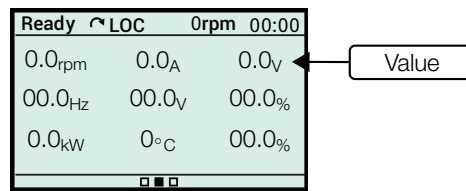

Figure 4.13: View in Slot
- **Slot:** The HMI screen is divided into nine parts called Slots and allows viewing reading variables in the format **value**. Figure 4.13 shows a view example.